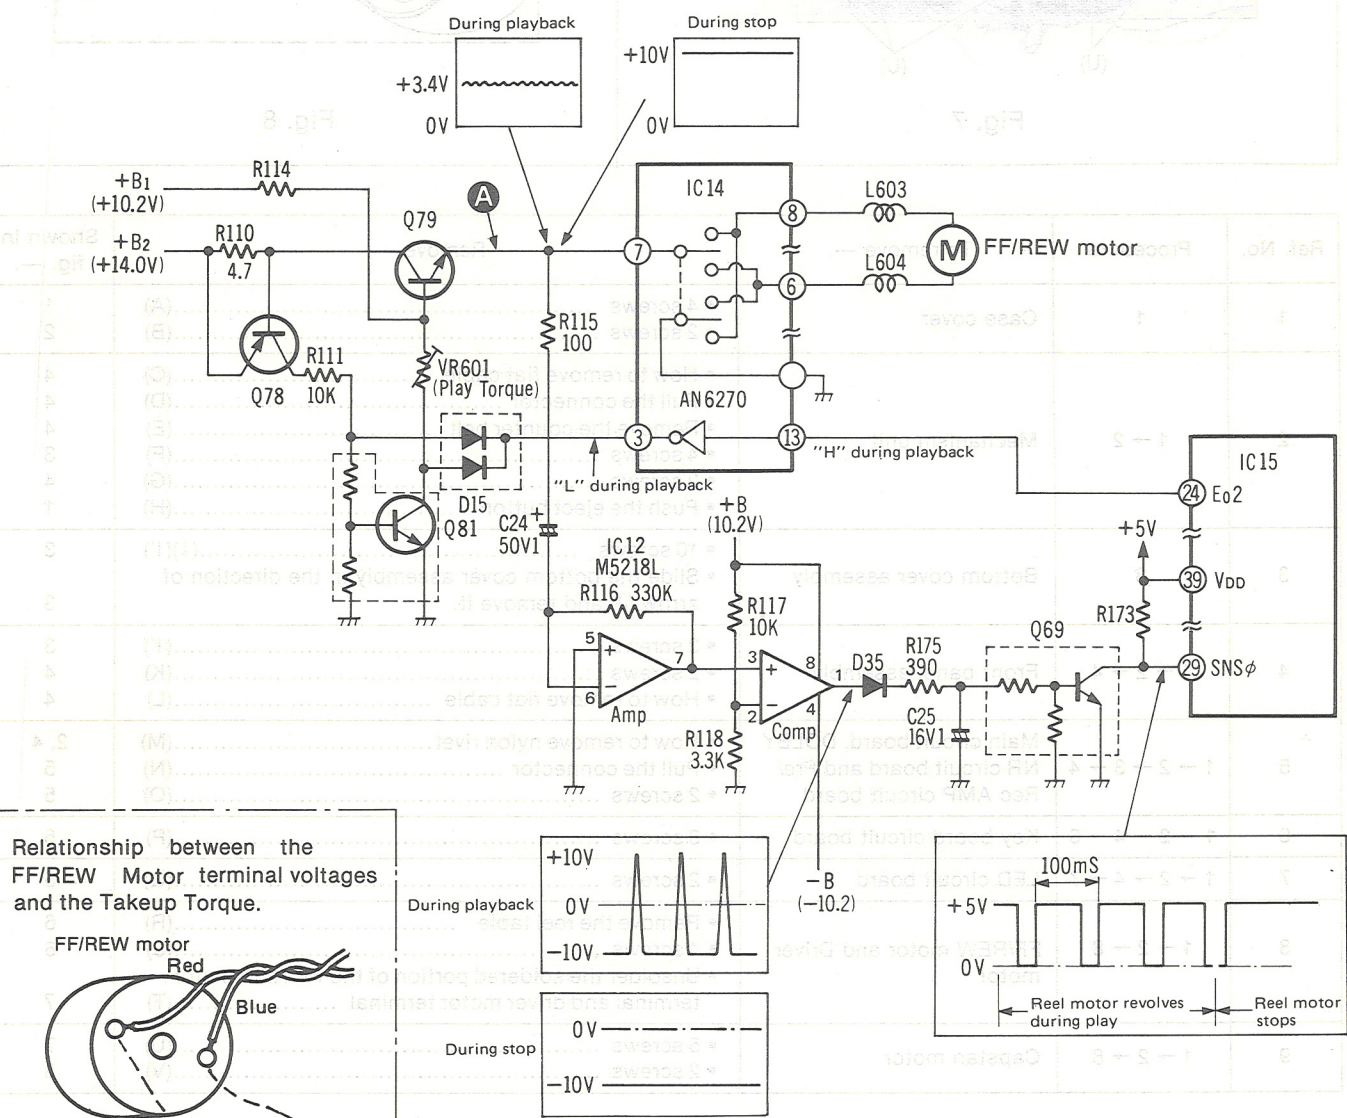

Fig. 1 The tape-end detection circuit
Operations of the Tape-end detection circuit is described below. Refer to Fig. 1 above. Transistor Q79 feeds the power to the FF/REW Motor. While the FF/REW Motor revolves, due to intermittent current flowing to the amateur coil, noise will appear at the position A of the power line.
2. In installing the replacement rotary head assembly, make certain that the change gear is placed at location (B) on the change rod. (See Fig. 1.)